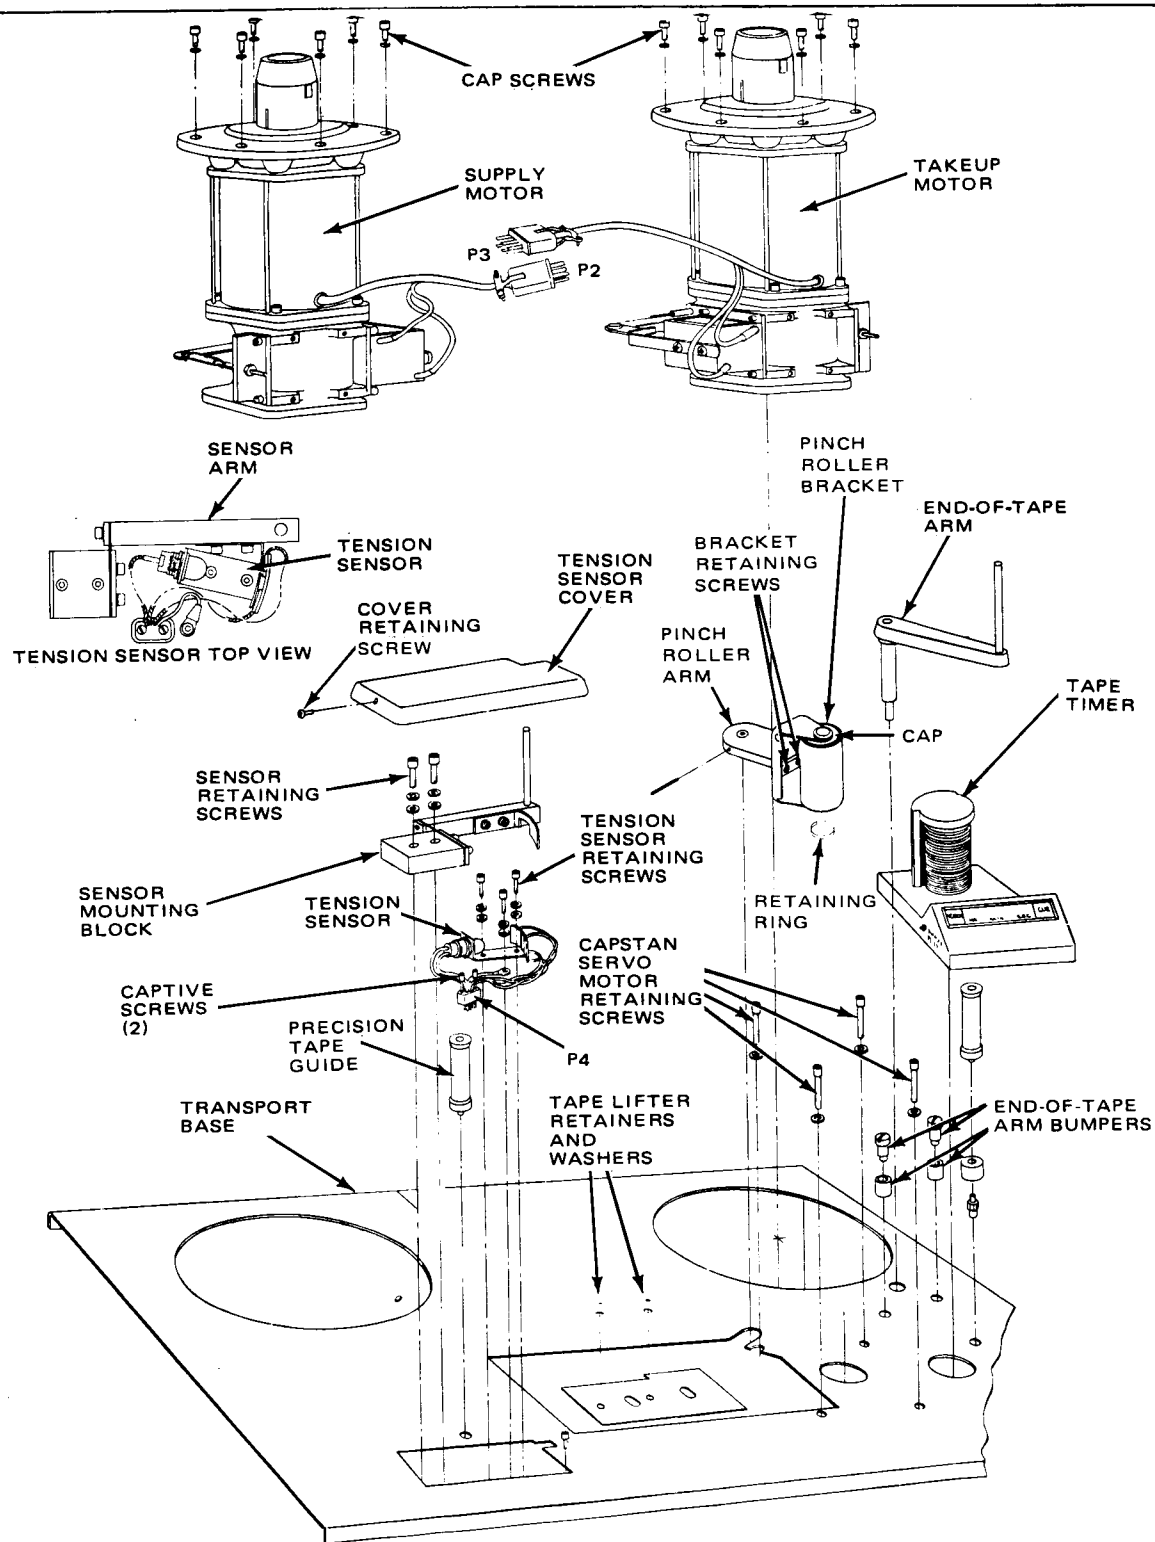

Figure 5-24. Transport Disassembly (Top)
2. Remove six 10/32 capscrews and No. 10 washers from the reel motor mountings (see Figure 5-24).
The two individual sections of the tension sensor may be removed separately. Refer to Figure 5-24 and remove the tension sensor arm as follows.
1. Position the sensor arm such that the holes in the sensor arm base align with the mating holes in the transport base (see Figure 5-24).
1. Remove the tension sensor cover retaining screw and the tension sensor cover (see Figure 5-24).
1. Slide the tension sensor under the sensor cover arm and align the mounting holes with the mating holes in the transport base (see Figure 5-24).
1. Remove the retaining ring from the bottom of the pinch roller shaft (see Figure 5-24).